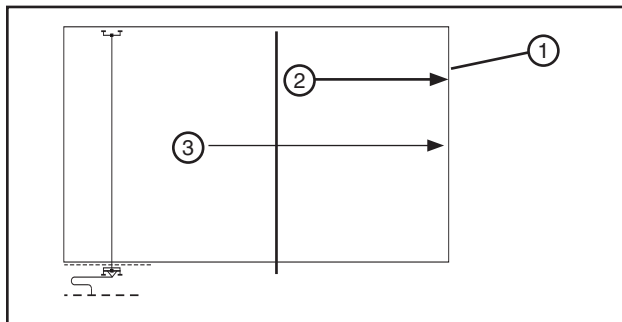

Figure 38-3 1. Field
1. The percentage timer is set at the desired application rate and the system is started at one end of the field and run wet (irrigating) to the other end of the field. See figure 38-3.